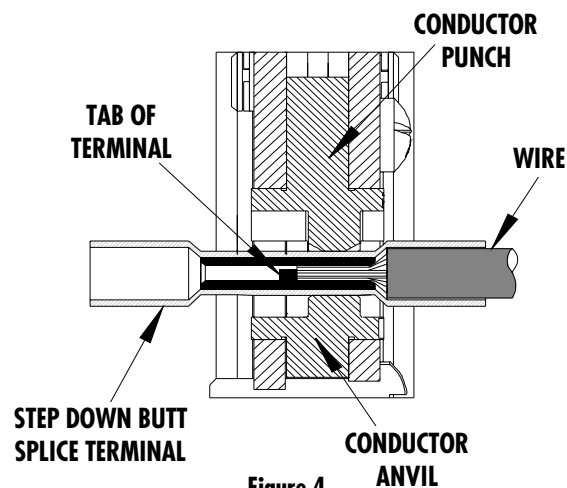

Figure 4
3. Insert the properly stripped wire into the splice. The wires end should butt against the tab in the terminal (See Figure 4). Cycle the tool.